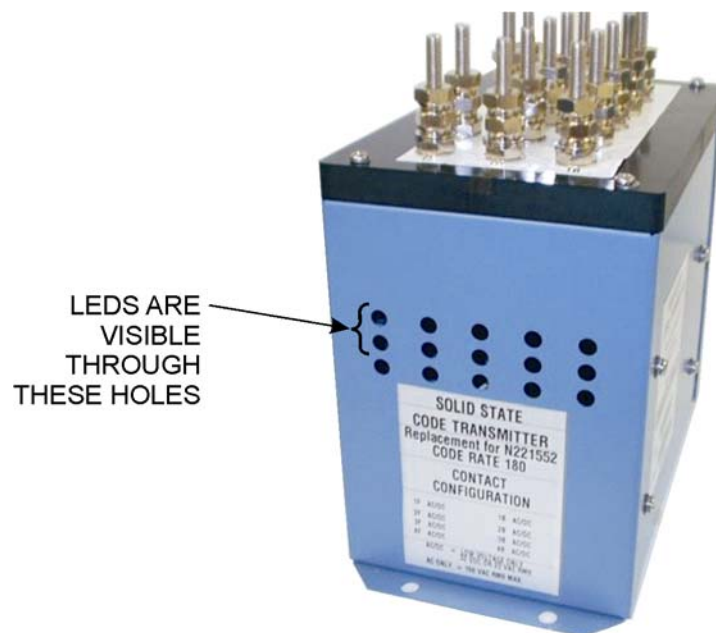

Figure 1-1 - Shelf-Mounted SSCT
| Figure 1-1 - Shelf-Mounted SSCT .....  | 1-1 |
The shelf mounted solid state code transmitter (SSCT) (Figure 1-1) is designed to be a functional electronic replacement for the Union Switch and Signal (US&S) DM style electromechanical and DM style solid state code transmitters. The original electromechanical DM style code transmitter is a relay that needs to be periodically inspected and serviced. The shelf-mounted SSCT, like the DM style SSCT, contains only electronic components. The only difference between the DM style and the shelf-mounted SSCT is the package and contact arrangement.
4. Place the unit in position making sure that at least one set of indicating LEDs is easily visible (see Figure 1-1).